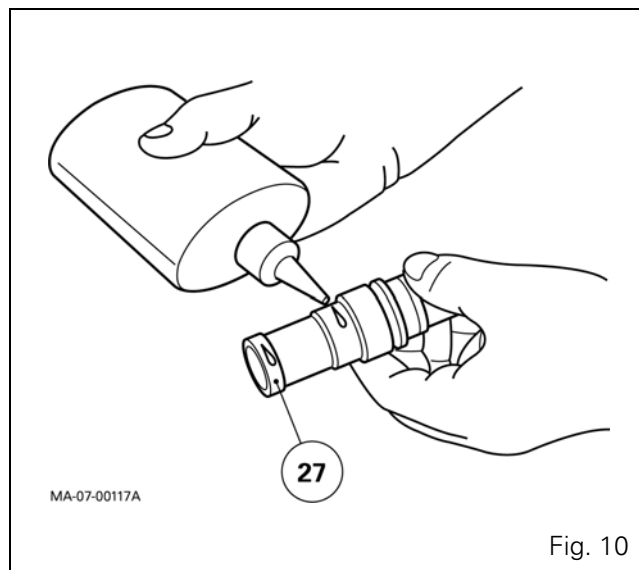

Fig. 10
The sleeve (27), smeared with Loctite 648 (Fig. 10), is fitted using the press. If disassembly is necessary, when reassembling make sure that Loctite does not block the channel.